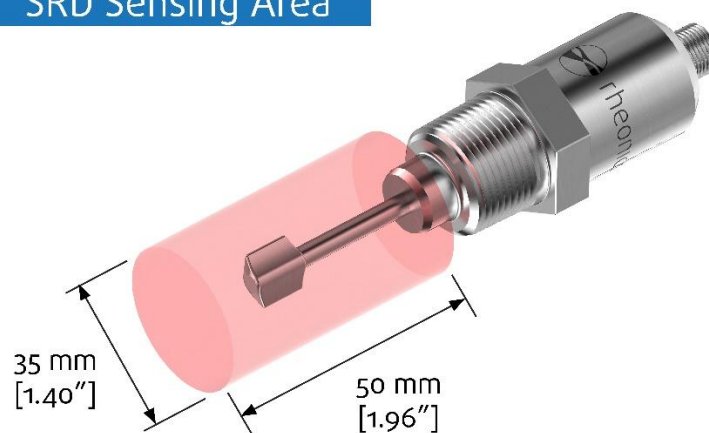

Figure 11: SRD sensing area.
Rheonics SRD sensor probe has a sensing element that is surrounded by the sensing area highlighted in red in Figure 11: SRD sensing area. Figure 11The SRD sensing area must be fully in contact with the fluid of interest, partial immersion must be avoided. This sensing area is the same across all variants of SRD probes. This allows repeatable and reproducible readings of density and viscosity for the same fluid and operating conditions, regardless of the probe variant (flush, short, long, slimline, reactor, etc.) or installation.
This is relevant only for Perpendicular installation orientation, as shown in Figure 11. SRD sensor probe's fluid end or tip has a pallet shape, with one axis longer than the other. For perpendicular installations, Rheonics recommends aligning the SRD sensor probe tip to the fluid flow, as detailed in Figure 12. This avoids possible recirculation zones that can lead to sedimentation behind the tip (shadow section). This is also a requirement for hygienic installations. Learn more here (See Table of References - Entry 14).
- Have enough space and fluid to surround the sensor sensing element (red zone in Figure 11). Have fluid level higher than the minimum level required. Consider the thermal equilibrium required, as described in section 3.4.